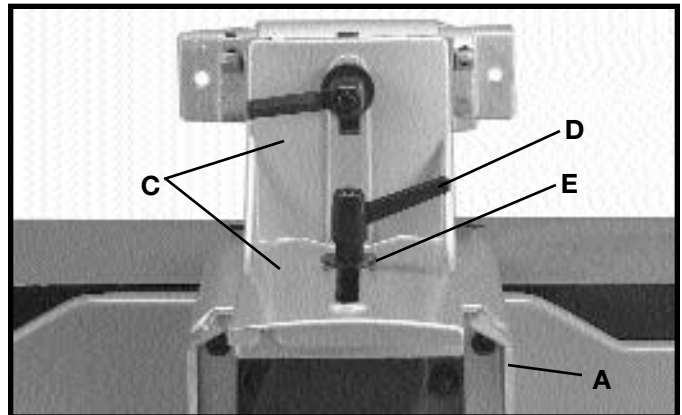
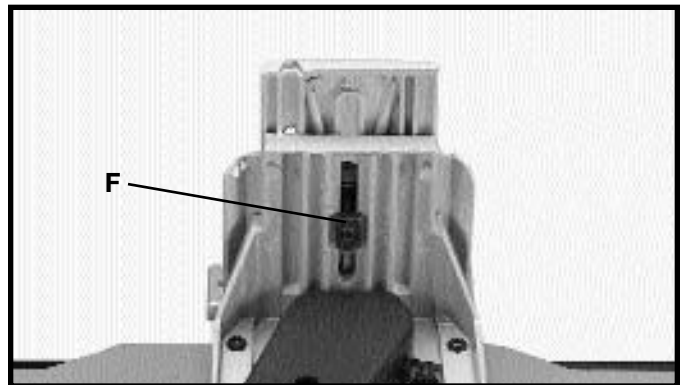

Fig. 7
Fig. 8
2. Assemble the fence sliding bracket (C) Fig. 7, to mounting bracket (A) using the lockhandle (D), flat washer (E) and special nut (F) Fig. 8.